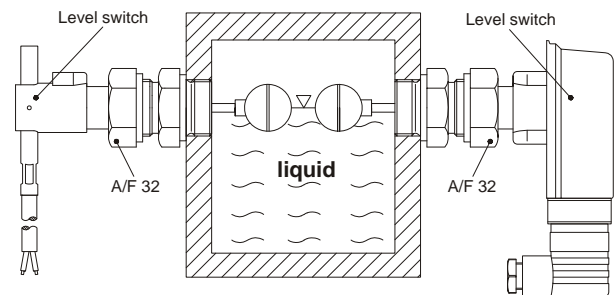

Fig. 3
- ✚ Install the level switch as shown in Fig. 3.